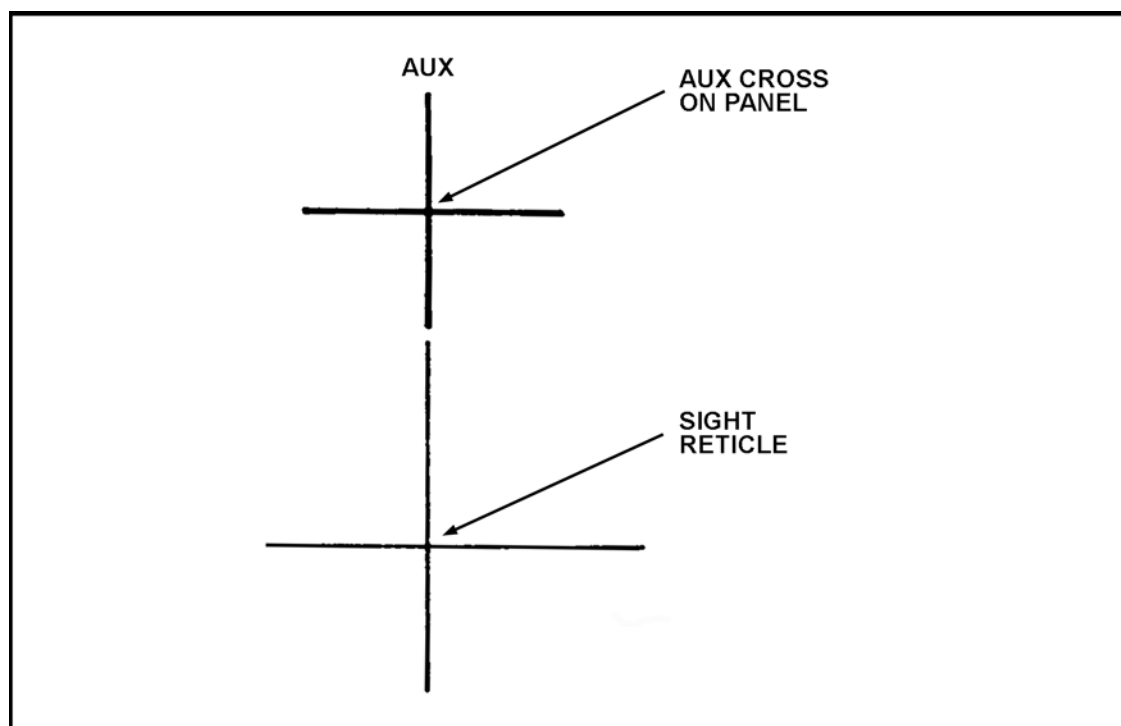

Figure B-53. Auxiliary sight reticle positioned below the AUX cross.
(1) Align the auxiliary sight reticle with the AUX cross on the panel using the turret and gun handwheels.
(2) Use the gun's handwheel to depress the gun until the top of the auxiliary sight reticle touches the bottom of the AUX cross on the panel (Figure B-53).